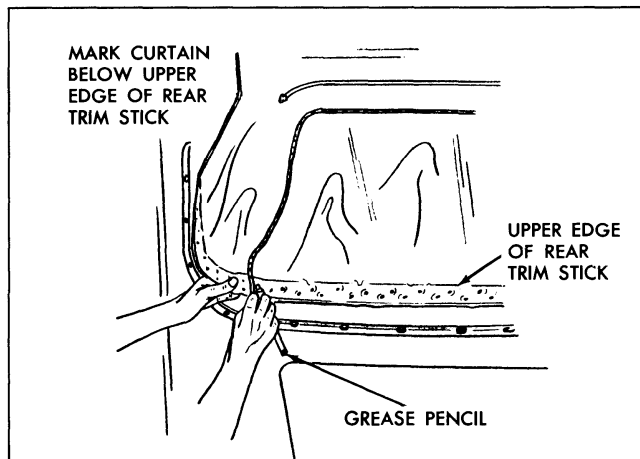

Fig. 22-32 Locating Edge of Top
8. To establish the relationship of right and left inner vertical edge of old top material to back curtain assembly at rear trim stick location, mark back curtain vinyl at both locations with a grease pencil (Fig. 22-32). Reference marks should be transferred to new back curtain when step 8 of